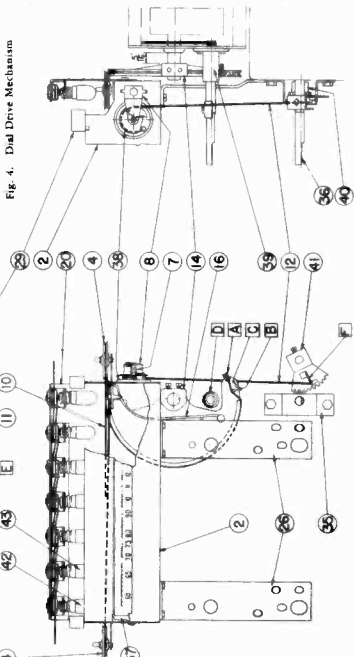

Fig. 4. Dial Drive Mechanism
The dial mechanism (Fig. 4) is rigidly mounted to the chassis by two brass and four self-tapping screws. The dial pointer is held by a set of anti-backlash vernier' reduction drive unit, mounted on the anti-backlash gears. Motion imparted to the gang condenser motor is transmitted through a series of pulleys and an interconnecting cable to the dial pointer slider which is supported on a rail above the dial scale.
Remove the defective drive cable to be replaced. Rotate the drive wheel (14) counter-clockwise until the gang condenser plates are fully open. Place the end of the cable housing an eyelet in slot [A]. Thread the cable as shown in Fig. 4 and make certain the correct grooves of the looped end are over the tension spring (10). Check the position of the cable coming (14) on the condenser shaft to make sure that the cable groove in the drive pulley. Also, as the condenser plates.